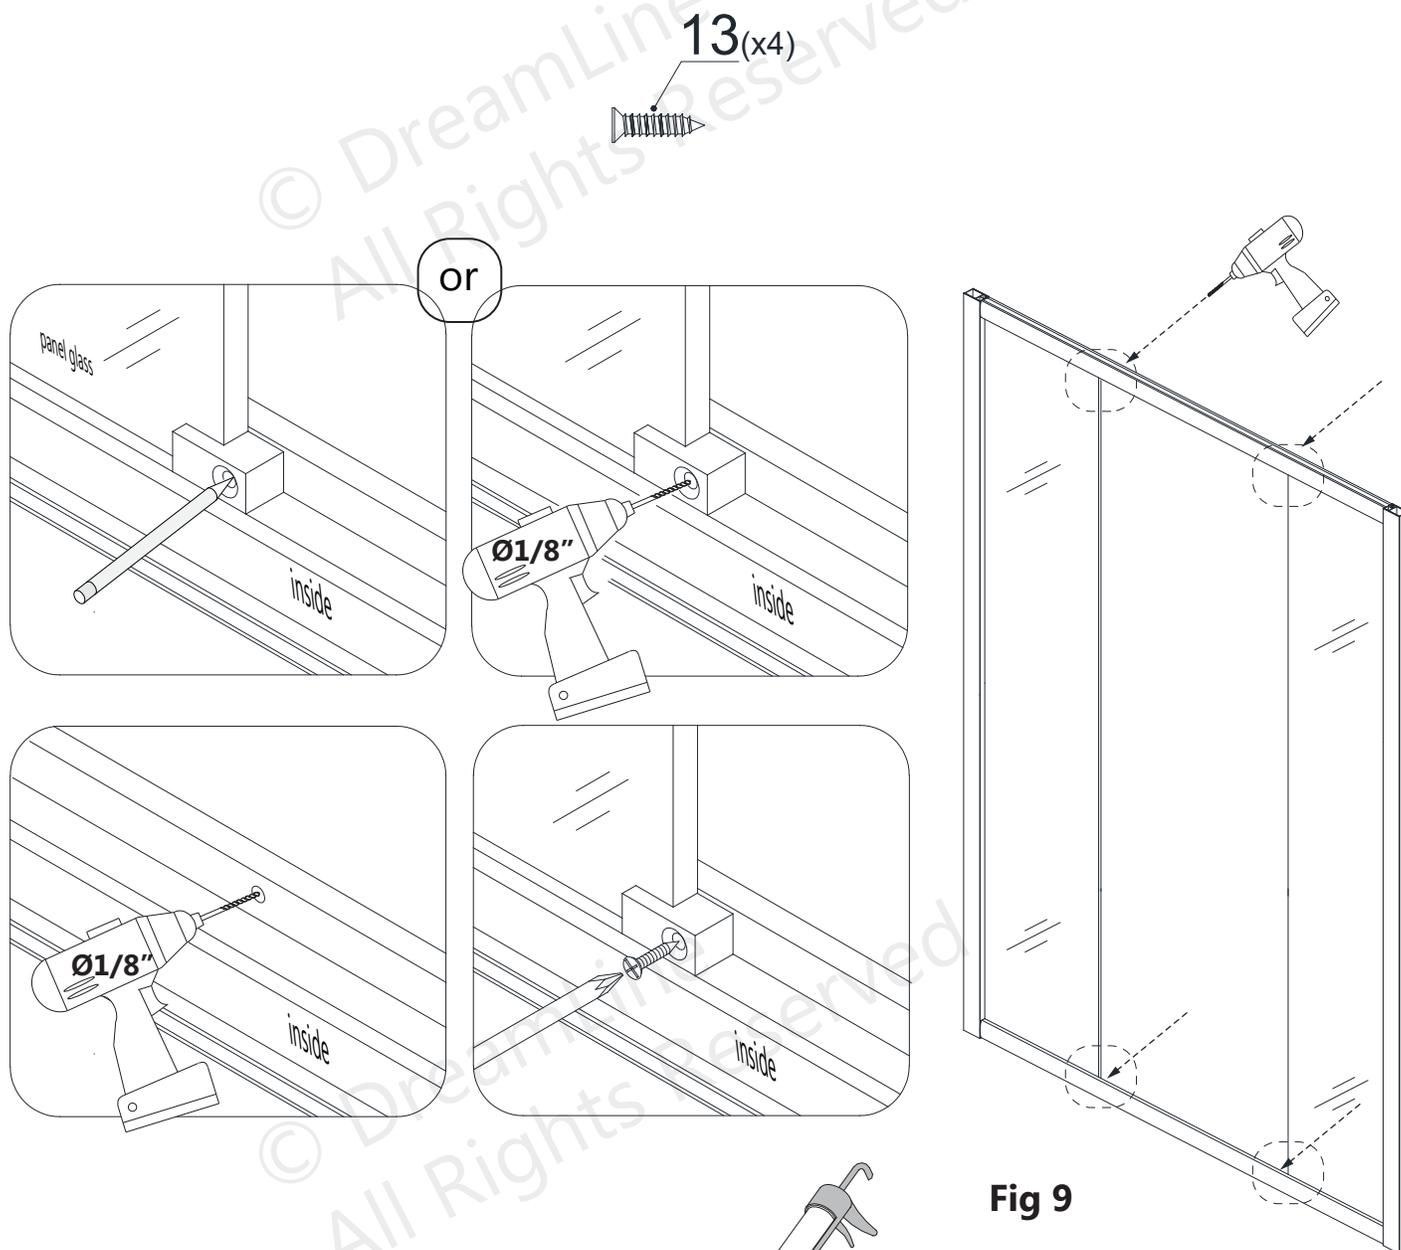

**Fig 8**
**8.** Apply silicone caulk to the rear surface of the **Wall Profiles (#02)**, the underside of the **Bottom Guide Rail (#03)**, and around the drilled holes in the wall. Place the entire shower assembly back into the designated position and secure it to the walls using the **ST4.2×55 Pan Head Screws (#10)**. The screws will pass through the larger holes in the **Glass Profile (#01)** and secure the **Wall Profiles (#02)** to each wall. **(Fig 8)**